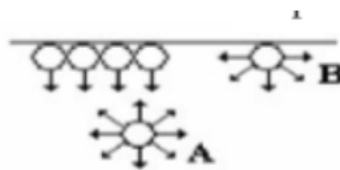

Figure 5
For another molecule (B) as shown in Figure 5, which is located at the surface of the liquid, if we neglect the attraction of gaseous molecules, this molecule is, on average, pulled inward perpendicular to the surface by the surrounding liquid molecules. The same applies to all surface molecules, which together form a kind of stretched film that compresses the interior of the liquid. To bring molecule (A) to the surface, i.e., to increase the surface area, energy must be supplied to move a molecule from the liquid phase to the vapor phase. This energy is called the surface energy, and it is directly related to intermolecular forces.